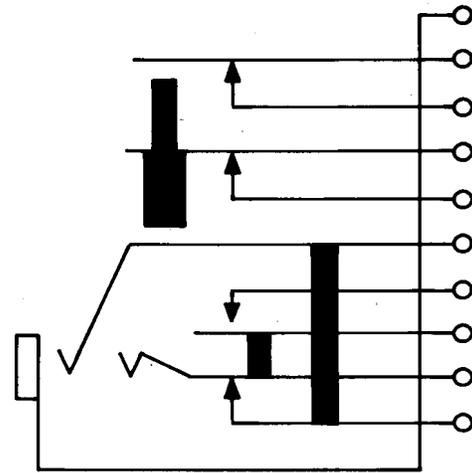

Fig. 13—469A or CM Jack
2.13 **469A and CM:** These jacks are used with a 310 or similar-type plug (Fig. 13).